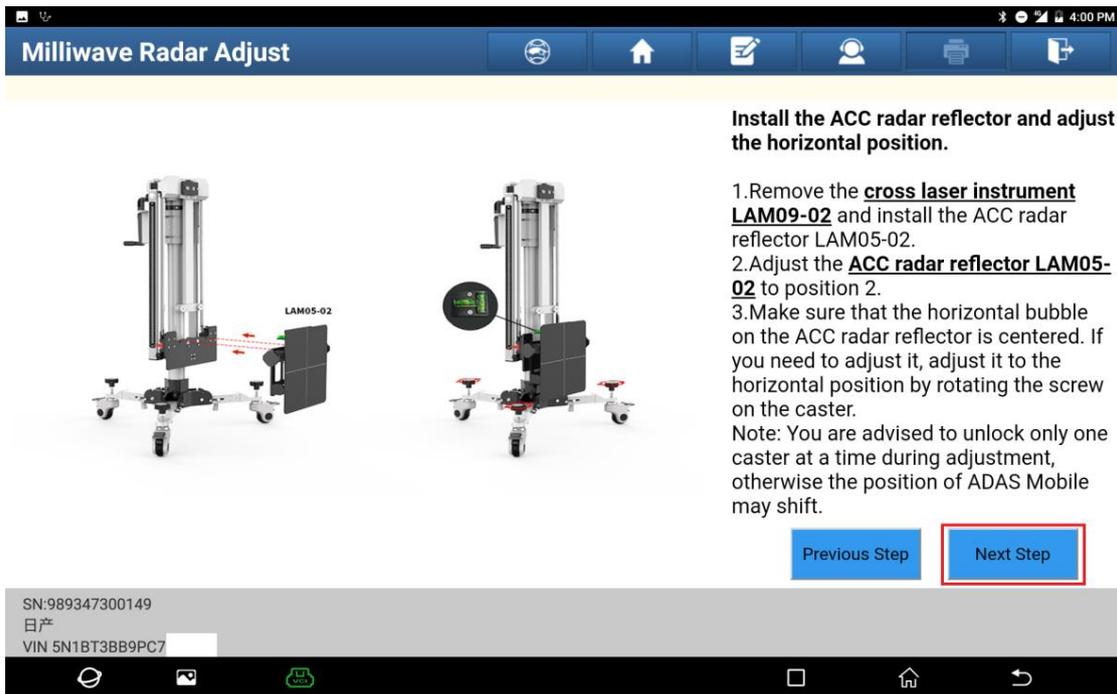

Figure 12
12. Click [Next Step]. Install the ACC radar reflector and adjust the horizontal position (as shown in Figure 12).